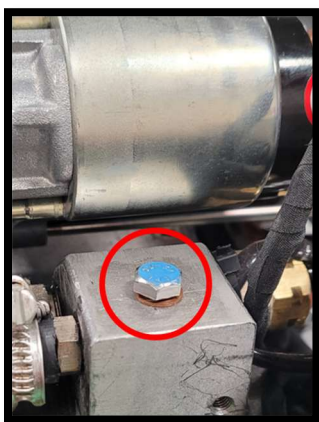

Figure 29: Coolant bleed screws
3. Open the bleed point (see Figure 29). Gravity will push coolant from the engine into the tank.